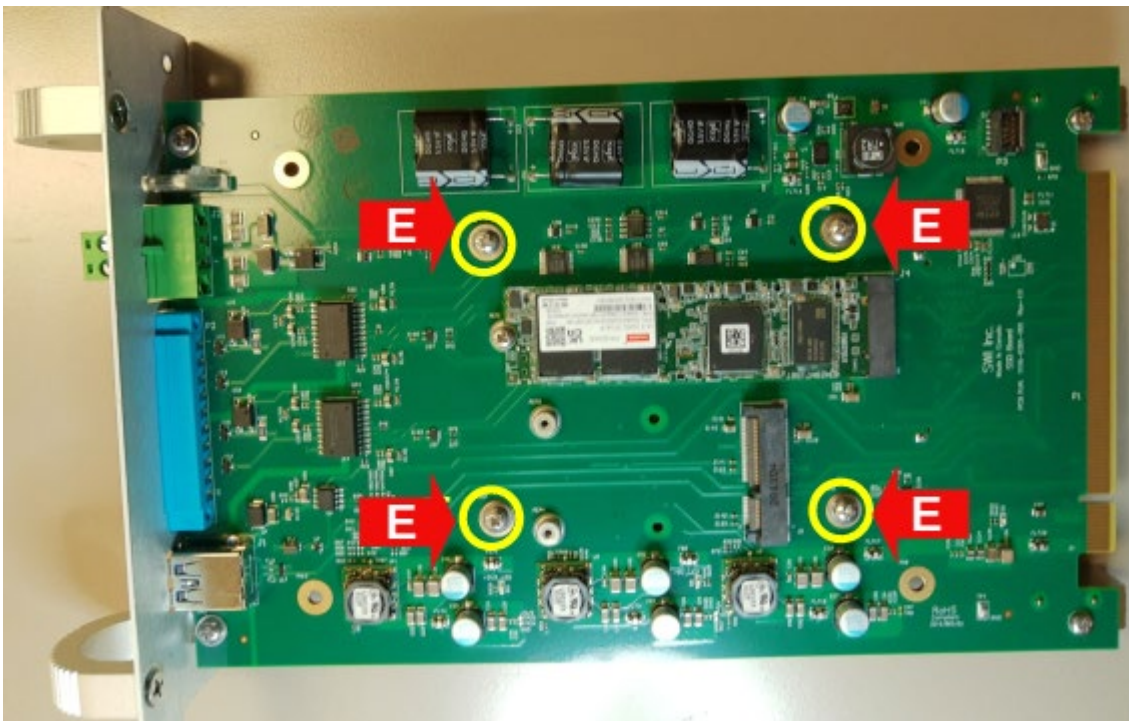

Figure 9-3 Internal view SSD Module
6. Unscrew screws marked (E) in Figure 9-3.